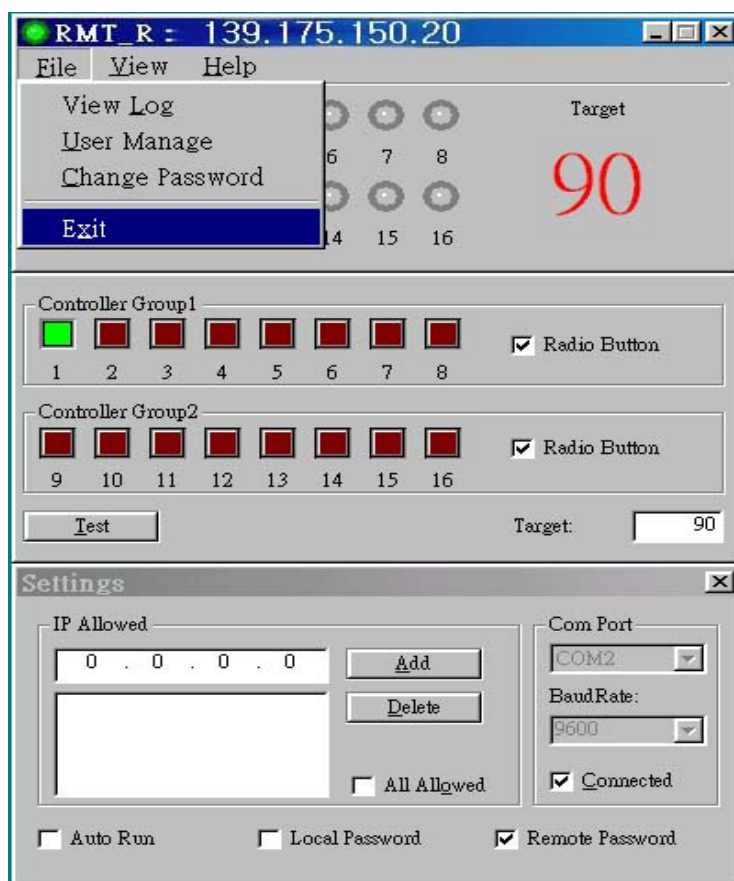

Fig. 11
h) If you want to close the program, please use “EXIT” instead of press “X” on the screen, as Fig. 11 shows: